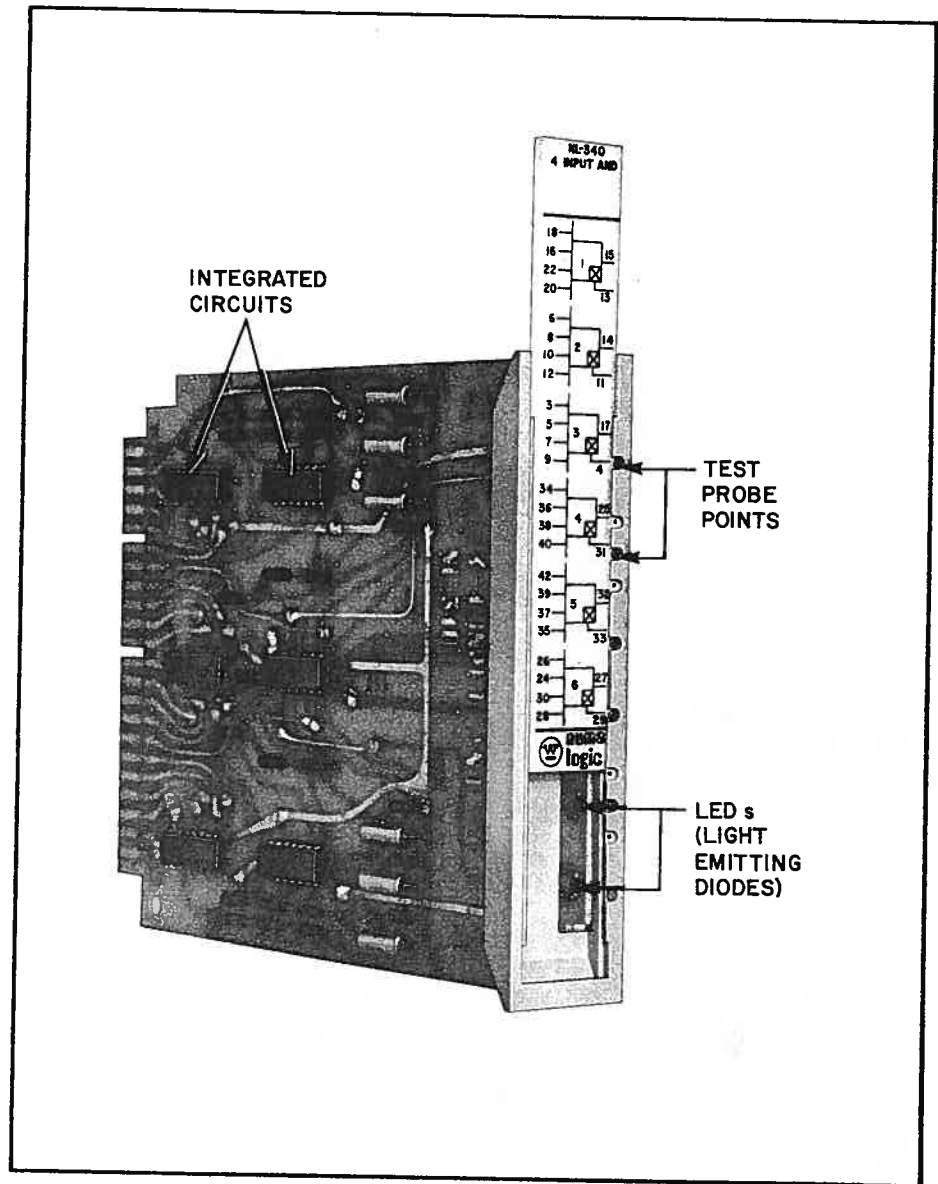
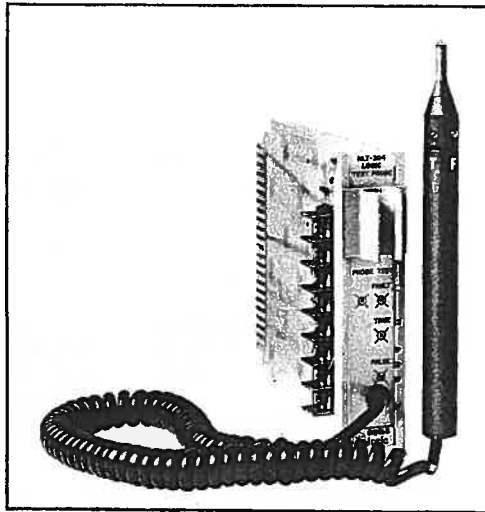

Figure 1-2: Typical 300 Series logic module showing ICs, LEDs and test points.
Figure 1-5: Special test probe used to troubleshoot Numa-Logic 300 Series panels.
1. All 300 Series modules utilize integrated circuits, which are accepted industry-wide as having the highest order of reliability. See Figure 1-2.
2. All built-in indicating lights are light-emitting diodes (LEDs). These LEDs offer the same type of long life reliability that is consistent with the other solid state components used. See Figure 1-2.
1. The condition of all inputs and outputs of the machine (limit switches, pushbuttons, solenoids, motor starters and lamps) are pictorially displayed on the input/output module faceplates by means of light-emitting diodes (Figure 1-2). The LEDs help diagnose problems with these devices, thus reducing troubleshooting time.
3. Test points are provided on the front of each 300 Series module, in addition to the LEDs (Figure 1-2). These points can be tested with a simple voltmeter or special test probe (Figure 1-5) to determine the status of every signal, thus eliminating the necessity of dropping or swinging out the rack for rear access.